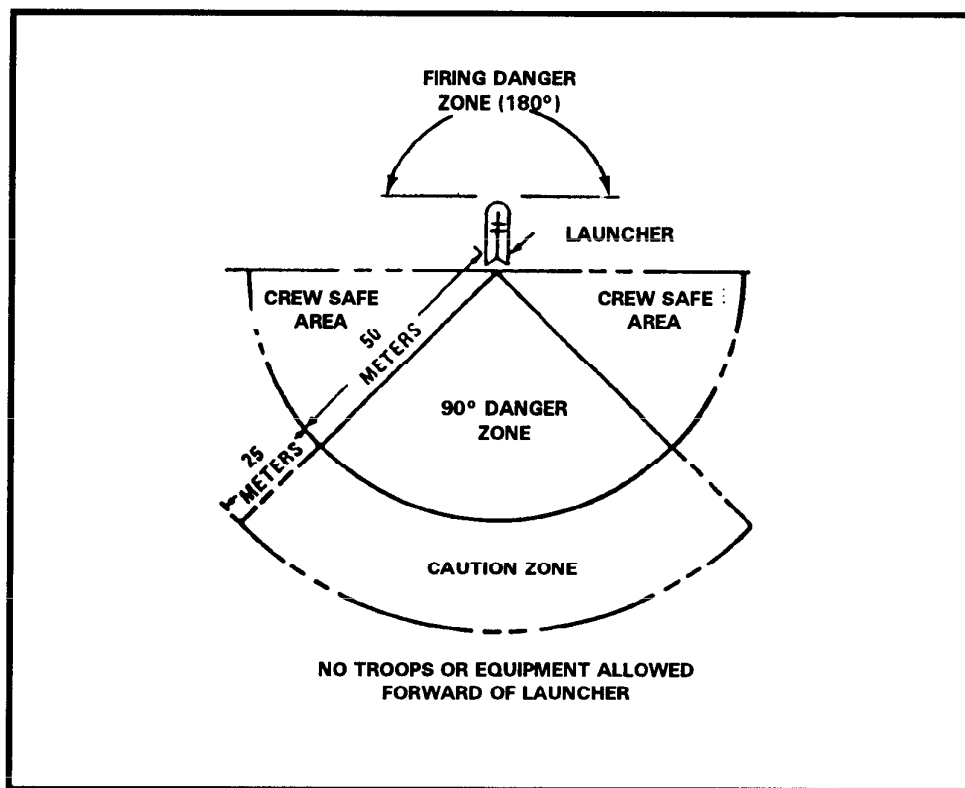

Figure A-1. TOW backblast area.
b. The *caution zone* extends an additional 25 meters to the rear of the danger zone. In this zone, a soldier is safe provided he does not face the aft end of the launcher. During training, the caution zone must be clear (Figure A-1, page A-2). (For further information on TOW firing limitations, see Chapter 2.)